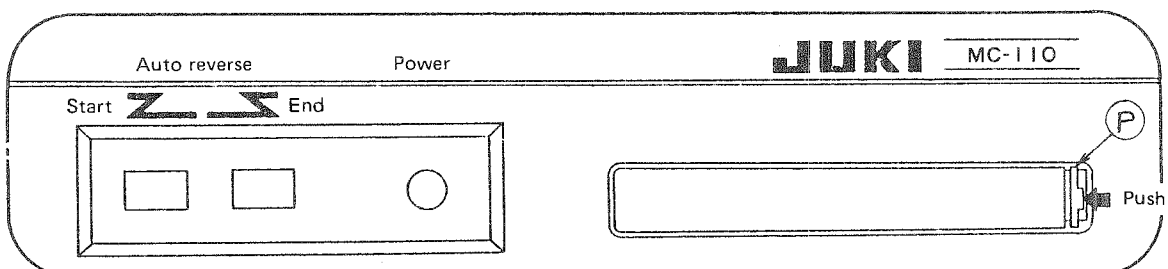

Fig. 3
- ① Turn the power switch OFF.
- ② Push “P” in the direction of the arrow to remove the CPU control panel cover. (See Fig. 3)